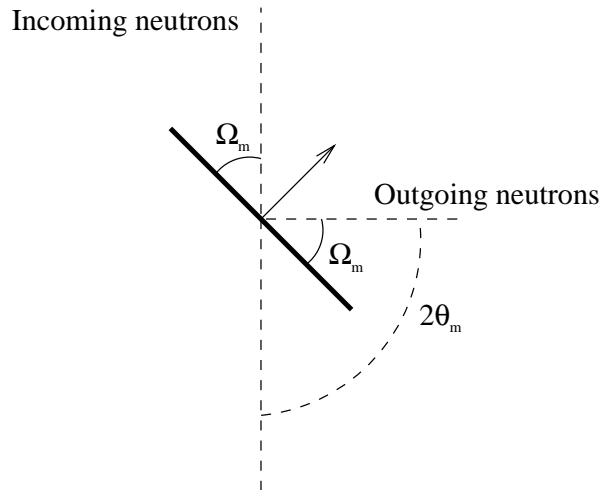

Figure 3: Illustration of the monochromator orientation.
1. Keeping your current components, insert a Monochromator_flat component (use the component library index to get the needed parameters) and a new set of PSD and L_monitor after the monochromator. Two new arms should be inserted to define the rotation point at the monochromator. One is used to rotate the monochromator, while the other rotates the instrument components that follow. Insert the two new arms at $(0,0,2)$ relative to the origin and the monochromator at $(0,0,0)$ relative to the monochromator arm. Also, add two new input parameters of your instrument, which we will call OMM (Omega Monochromator) and TTM (Two Theta Monochromator). These will define the angles of rotation at the monochromator as portrayed in Figure 3.